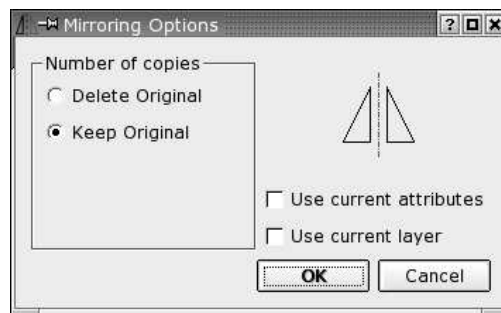

Figure 55: Mirror options dialog.
5. The mirror dialog is displayed (Figure 55). To mirror the entities without keeping the original entities, choose "Delete Original", to copy them choose "Keep Original". The copy will have the same attributes and be on the same layer as the original entities. To change that default behavior, you can tick "Use current attributes" or "Use current layer".